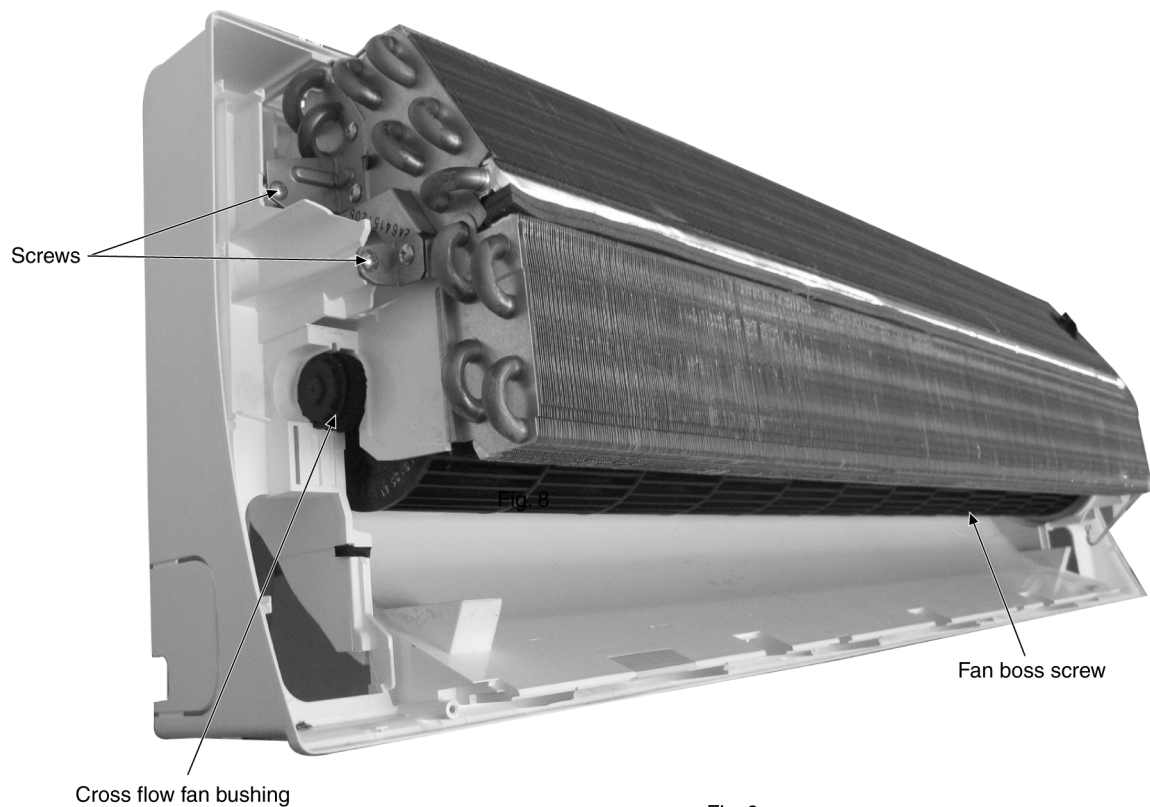

Fig. 9
- Remove the cross flow fan bushing from the chassis. (Fig. 9)
- Remove the screws on the left side of evaporator. (Fig. 9)
- Loosen the fan boss screw at the cross flow fan. (Fig. 9)